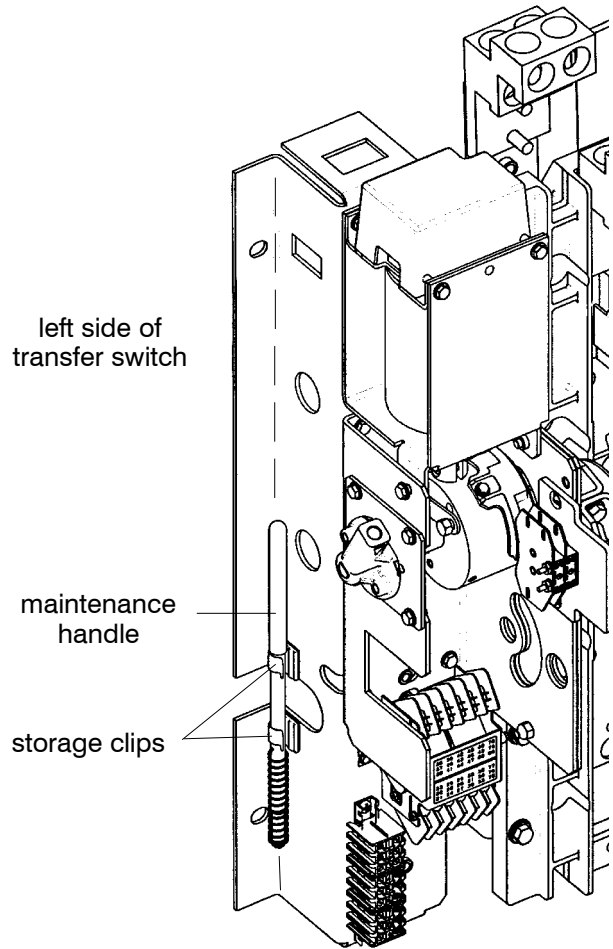

Figure 1-3. Maintenance handle & storage location.
1. After deenergizing both power sources, open the enclosure door. Locate and remove the maintenance handle from the clips on the left side of the transfer switch frame. Insert the handle into the hole in the molded hub on the left side of the operator. See Figures 1-3 and 1-4 and Table B.